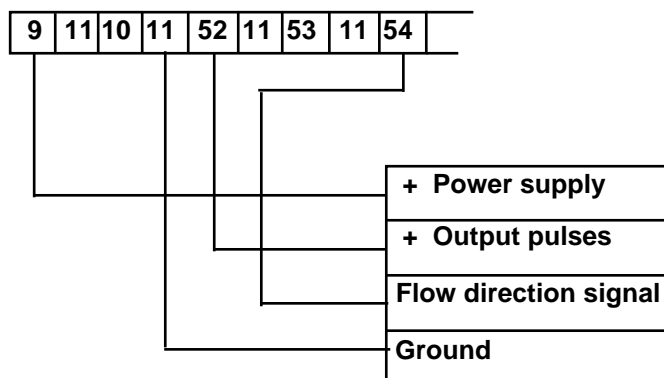

Fig.B5. Flow sensor V2 connection diagram for energy measurement algorithm “3 – winter / summer”
3. Flow sensor V2 connection diagram for energy measurement algorithm “3 – winter / summer” is presented in Fig. B5. In this case flow sensor V4 not available.
3. Flow sensor V2 connection diagram for energy measurement algorithm "3 - winter / summer" is presented in Fig. B5. In this case flow sensor V4 not available.